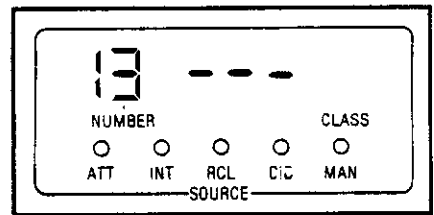

Fig. 243-4 Completed Entry Display
• SOURCE display shows Table number (Fig. 243-4), and three hyphens (indicating table is now common-use)